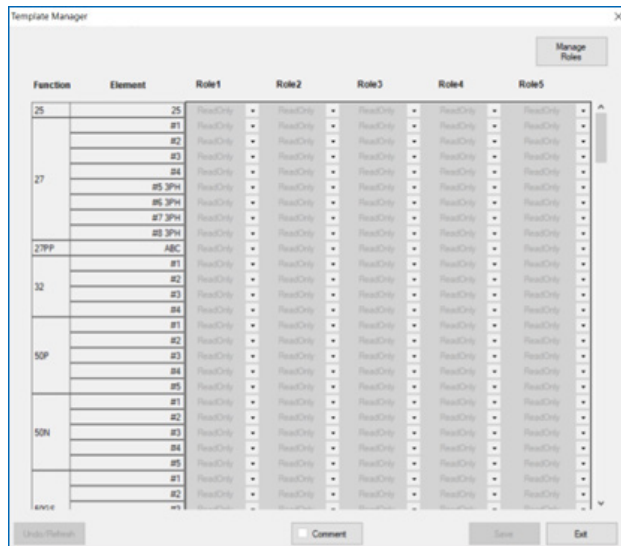

Figure 3-17 Template Manager Main Screen
■ **NOTE:** The User Name for the administrator is fixed as “Administrator” and cannot be changed. To change the Administrator password, IPScm will require the Administrator to type the default password (admin1@M76XX) in the Type Old Password field. The new password in the appropriate fields must comply with the criteria established in the USER ACCOUNTS section of this Communication guide and must be different from any of the previous 12 passwords. IPScm will confirm when the password has been successfully set and then display the Template Manager (see Figure 3-17).